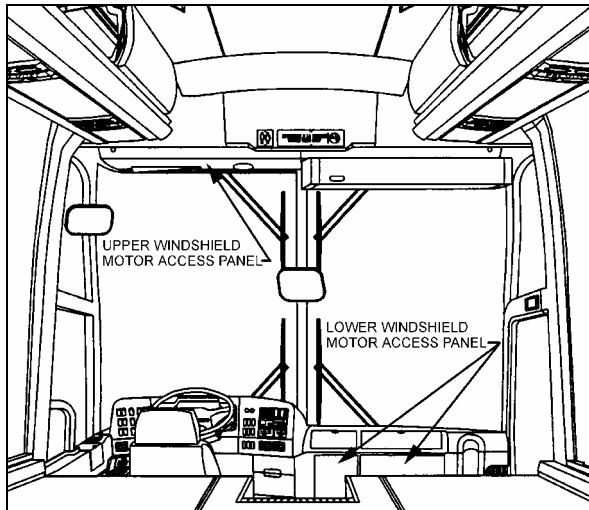

FIGURE 29: WIPER MOTORS LOCATION 23319
The windshield wipers are controlled by two electric wiper motors that are accessible for maintenance after raising the appropriate access panel at the front of the coach (refer to figure 29).
7. Install the left wiper arm in its normal position (in the middle of the windshield (Fig. 29)). Refer to paragraph "9.2.1 Sweep Adjustment".
The lower windshield wiper motor is located at lower front of the vehicle, behind the defroster panel. Refer to figure 29 for motor location.
The upper windshield wiper motor is located above L.H. upper windshield panel, refer to figure 29 for motor location. To remove the motor, it is necessary to remove left sun visor and upper windshield panel.